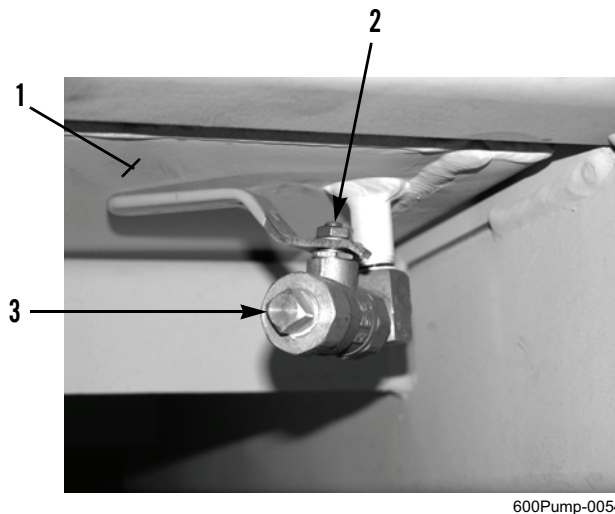

Figure 1. Drain Valve.
2. Place an approved fuel safety can or other suitable container under drain valve (Figure 1, Item 2) on underside of fuel tank (Figure 1, Item 1), on left side of trailer.
3. Remove plug (Figure 1, Item 3) and turn valve handle 1/4 turn counterclockwise (left) until valve handle is in line with drain flow. Allow fuel tank (Figure 1, Item 1) to drain.
4. After draining fuel tank (Figure 1, Item 1), close drain valve (Figure 1, Item 2) by turning valve handle 1/4 turn clockwise (right). Retain plug (Figure 1, Item 3) for installation when fuel tank is filled.